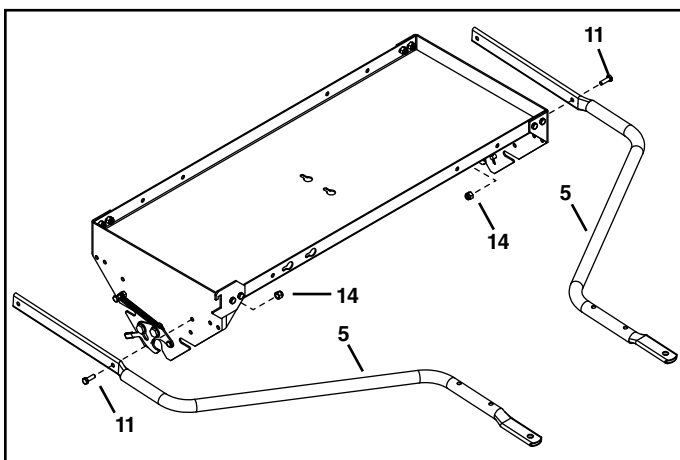

FIGURE 2
6. Attach the hitch tubes (5) to the third hole from the front of the tray assembly using two 5/16 x 1" hex bolts (11) and 5/16" nylock nuts (14). **Do not tighten yet.** See figure 2.
- Attach the lift tube assembly (2) and the hitch tube (5) to the rear hole on the left side of the tray using a 5/16 x 1-1/2" hex bolt (10) and 5/16" nylock nut (14). **Tighten** the nut then loosen 1/2 turn.
- Tighten** the nuts and bolts shown in figures 2 and 3.